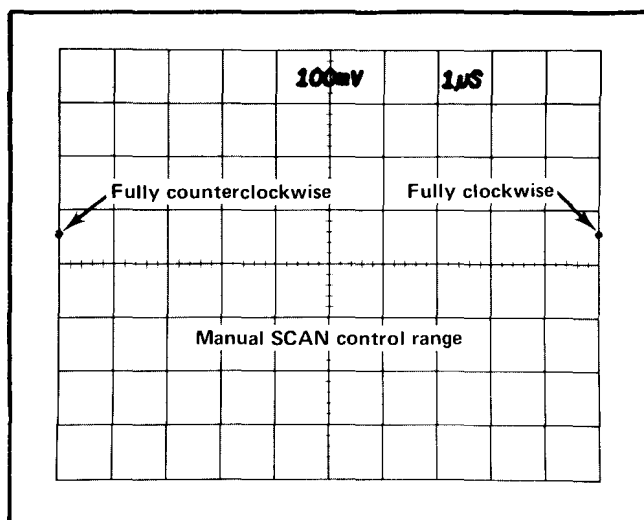

Fig. 5-1. The correct dot range of movement for Manual SCAN control operation.
j. Check that the dot range of movement is from graticule vertical line 0 (left edge) to graticule vertical line 10 (right edge) when the SCAN control is turned from the fully counterclockwise position to the fully clockwise position. Adjust the HORIZ POS and SWEEP CAL (screw-driver adjust) controls as necessary to obtain this performance. The SWEEP CAL control sets the distance the dot moves. The HORIZ POS control positions the range of dot movement of the graticule. See Fig. 5-1 for this display.